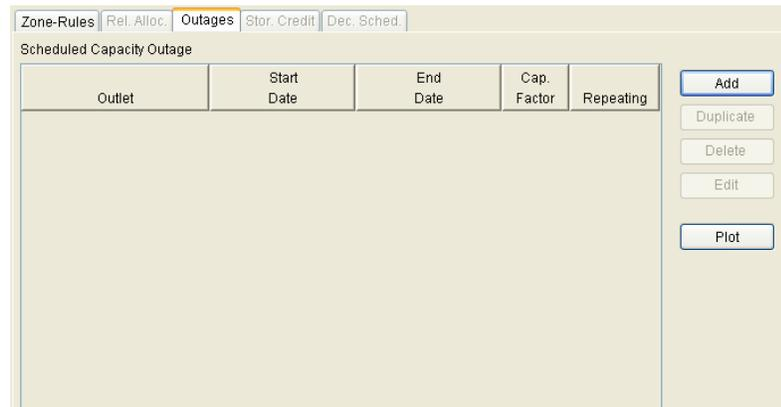

Figure 11.101 Scheduled Capacity Outage Editor
2. **Outages** The **Outages** tab becomes available (Figure 11.101) where you will enter the specific outage information including: the **Outlet**, the Starting and Ending **Dates** of the outage, the **Capacity Factor**, and an indicator for whether or not this is a **Repeating** outage.